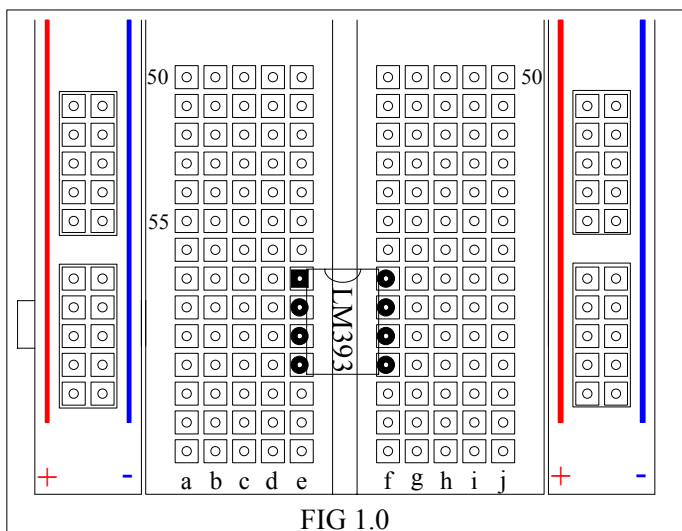

FIG 1.0
2. Step 1 - Insert the Integrated Circuit (IC) LM393 as shown in FIG 1.0.
Insert the IC (LM393 Comparator) into breadboard as shown in FIG 1.0